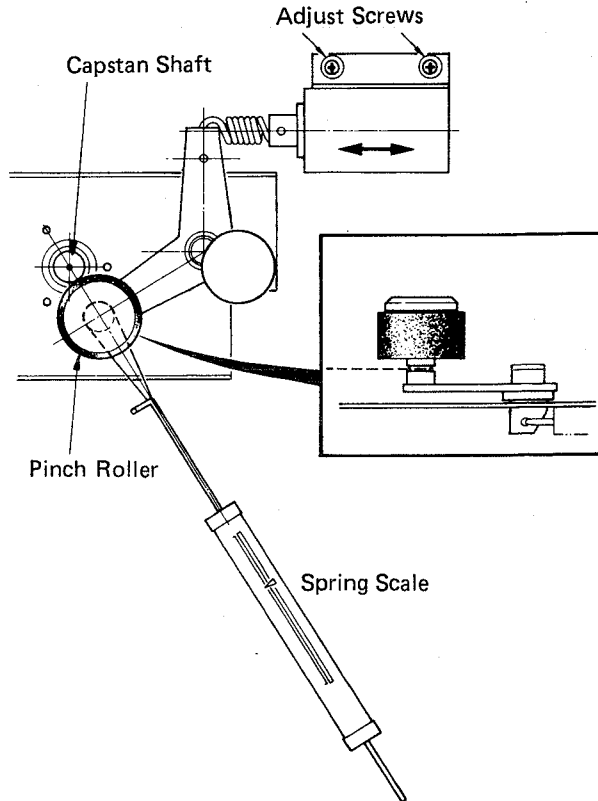

FIG. 14. PINCH ROLLER PRESSURE ADJUSTMENT
3. Attach a spring scale to the pinch roller as shown in Fig. 14.